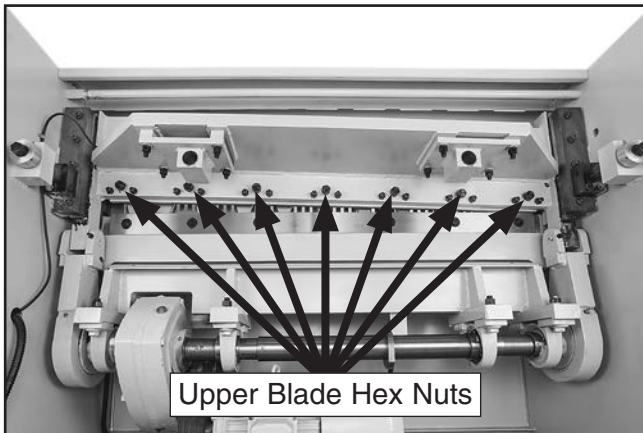

Figure 61. Upper blade hex nut removal (rear work stop and rear cover removed for clarity).
8. While assistant holds keyed flat head cap screw at front of upper blade, loosen but **DO NOT** remove (7) corresponding hex nuts and (7) flat washers on back of blade frame (see **Figure 61**).